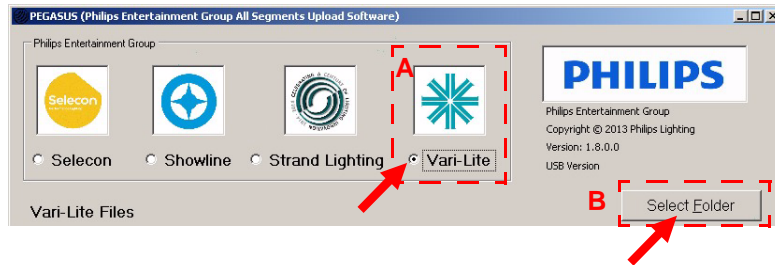

Figure 3-10: PEGASUS Software Selection Screen
- a. Select Vari-Lite for luminaire type (as shown in Figure 3-10.).
- b. As indicated in Figure 3-10, click on Select Folder button to open browser window.